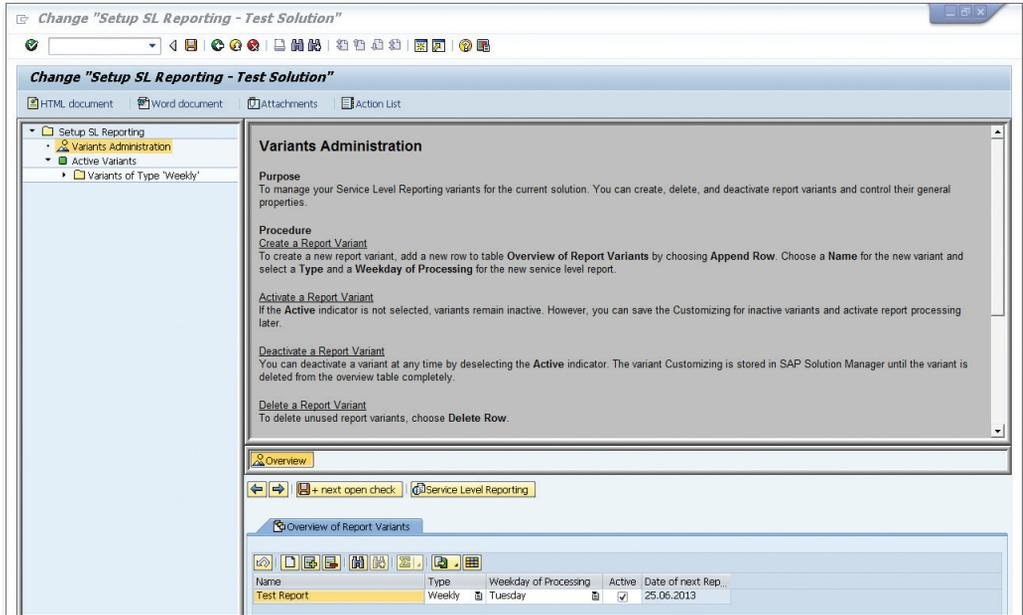
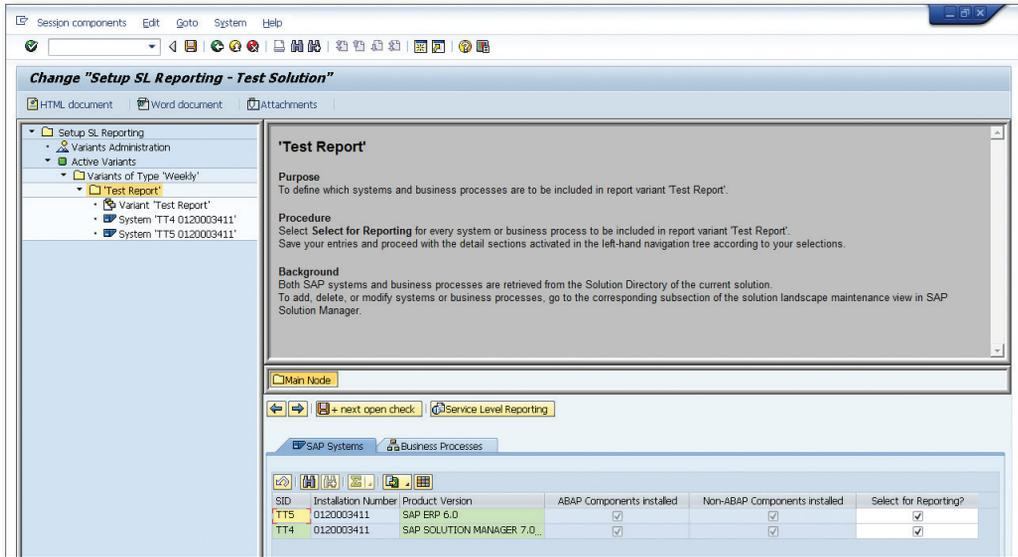

Figure 8.5 Creating the Service Level Report
Figure 8.6 Selecting Systems for Service Level Reporting
4. For each variant, you can specify whether the report will be executed on a weekly or monthly basis. You can also specify the day on which the report will be executed. Finally, you can activate the variant here (see also Figure 8.5).
In the configuration step that bears the same name as the report, select those systems from the system landscape that you want to include in reporting (see Figure 8.6). To do this, select the relevant checkboxes in the SELECT FOR REPORTING? column. If business processes are already maintained in your solution, you can select them on the BUSINESS PROCESSES tab page. Depending on your selection in this configuration step, additional steps will appear in the overview on the left-hand side (see Figure 8.5).
For each system you have selected, there is a configuration step in which you can select the data sources for the service level report. Systems TT4 and TT5 were selected in Figure 8.6, and the corresponding configuration steps were automatically generated for these systems. For the next service level report, you can choose from the following data sources for each system: